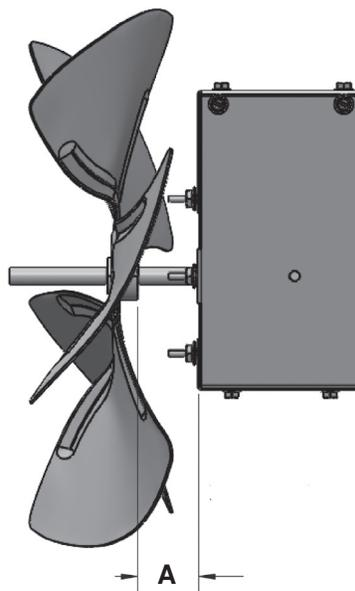

Figure 7. Fan and Motor Spacing (Refer to Table 6)
7. Ensure that fan is in proper position on shaft (see Figure 7) and setscrew is tightened in accordance with torque listed in Table 6.
*See Figure 7.